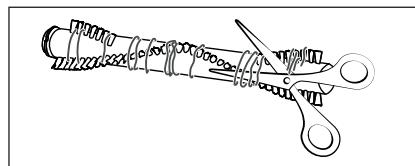

Fig. 26
- 4) Cut threads and hairs along the bristles of the rotary brush ⑩ with scissors (see Fig. 26). Remove threads and hair from the rotary brush ⑩.